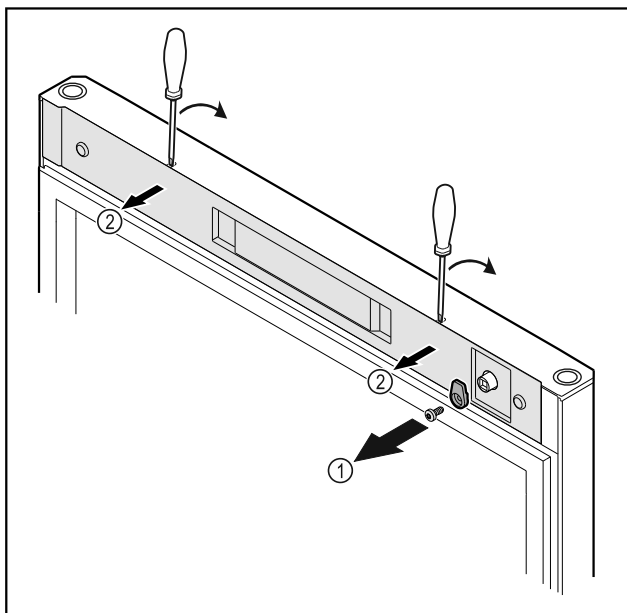

Fig. 9
- Unscrew the door latch Fig. 9 (1).
- Unlatch the cover Fig. 9 (2) with a small screwdriver and remove it.